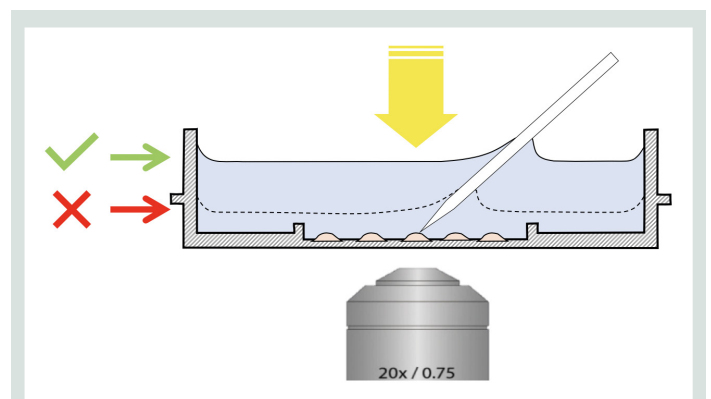

Figure 1: Cell culture dish filled to a higher level with injection medium to reduce image refraction in the light path.
- B.** Fill the dish with a larger volume of injection medium than is typically used for cell culture (see in Figure 1, green arrow). The liquid meniscus formed where the capillary enters the medium refracts light thus degrading image quality. Raising the level of media in the dish greatly improves image quality by moving this area of refraction away from the light path.